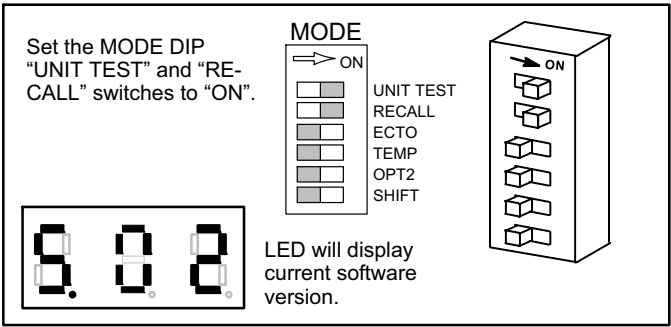

Figure 4. Check Software Version and Address
2. Set the MODE DIP “UNIT TEST” and “RECALL” switches to “ON”. See figure 4.